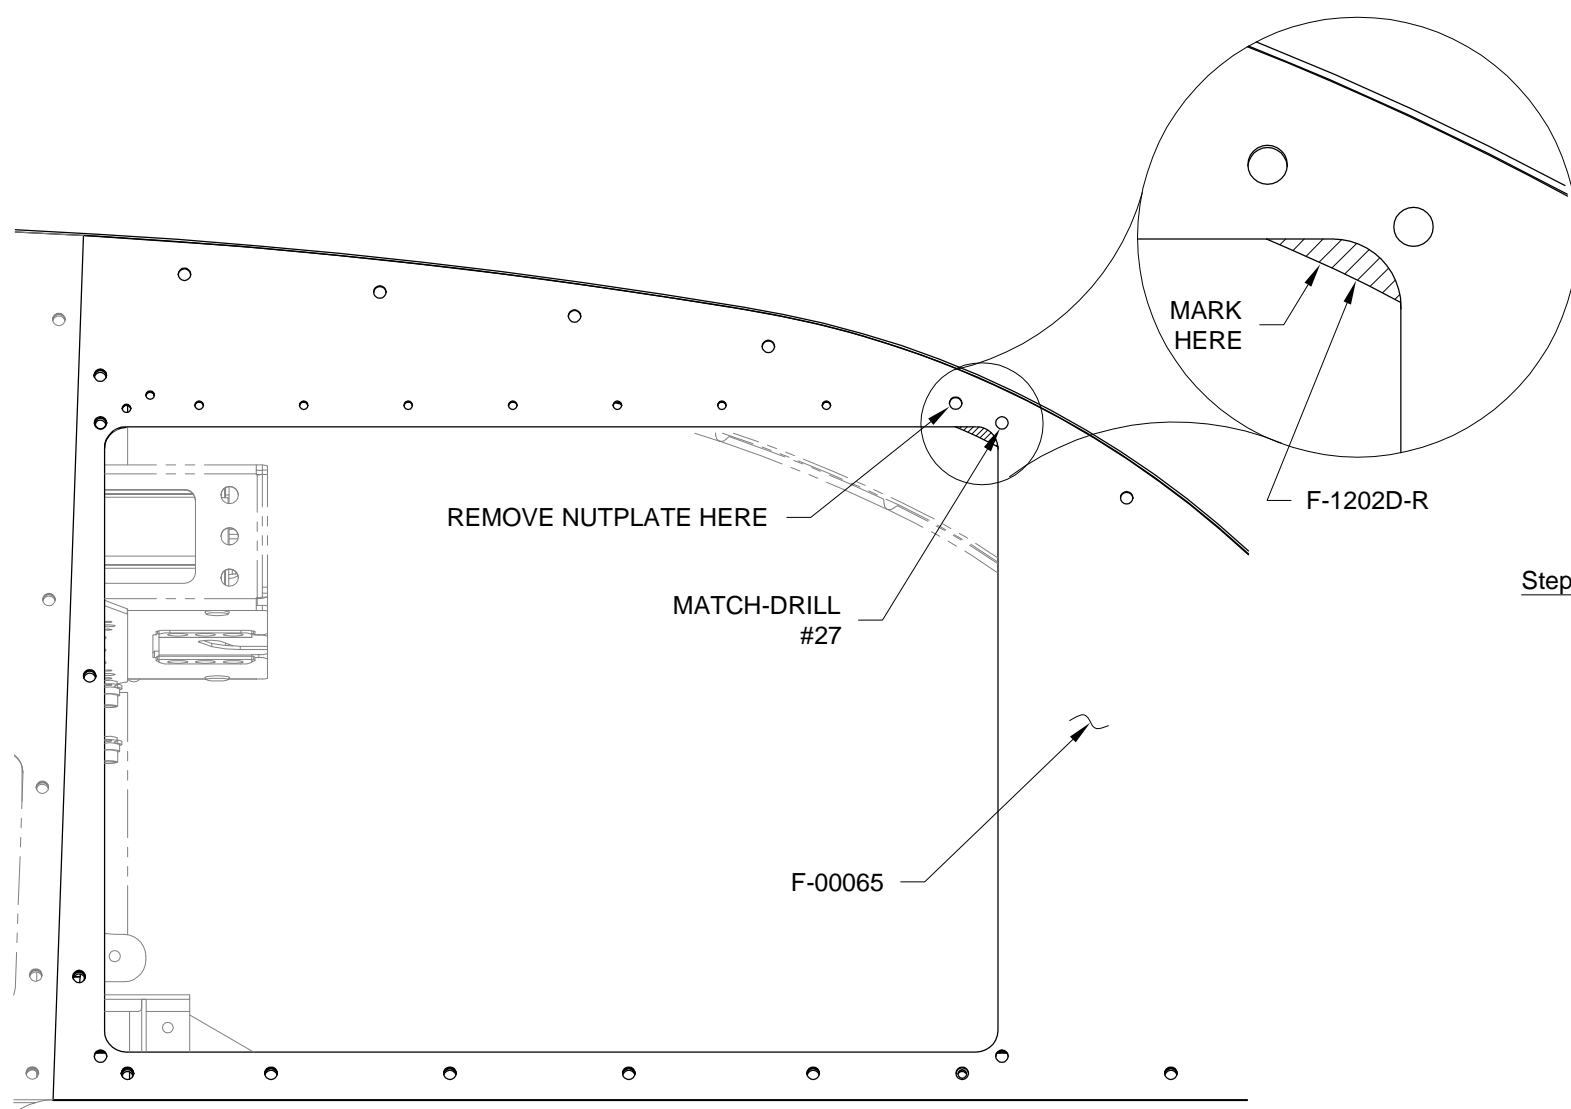

FIGURE 1: MARKING THE EFIS CUTOUT
Step 4: Trace the upper right corner of the cutout in the RV-12 panel (copilot) for the G3X display onto the F-1202D-R Panel Attach Strip. See the explode view in Figure 1.
Step 5: Match-Drill #27 the hole indicated in Figure 1 into the panel attach strip.
Step 7: Remove the specified nutplate from the panel attach strip. See Figure 1.